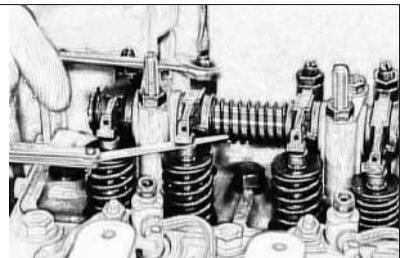

Fig 5-23 Check Valve Clearances
2.12 After above adjustment, turn crankshaft one revolution, adjust other valves clearances. After finishing all valves adjustment, recheck valve clearances as same sequence to keep correct valve clearances (see Fig 5-23).